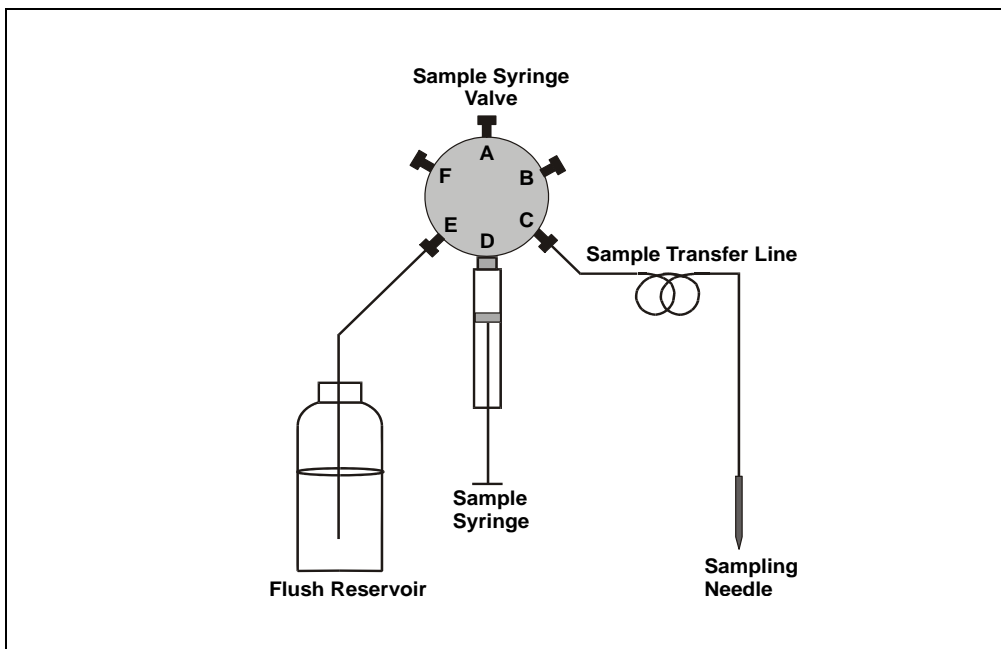

Figure 2-19. Fluid Schematic for Sample Syringe
- The needle arm then delivers a volume of fluid to the flush port. This primes the lines from the flush reservoir to the syringe and through the sample transfer line to the sampling needle (see Figure 2-19).